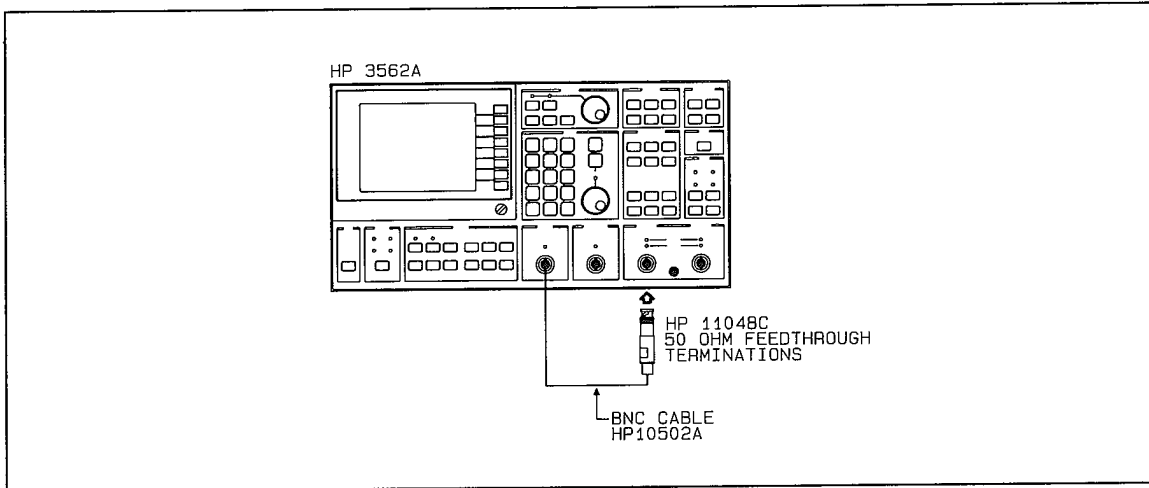

Figure 2-32 Source Output Resistance Test Setup
- A. Connect the test instruments as shown in figure 2-32.